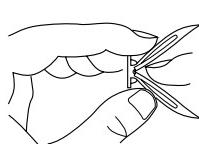

Figure 7 - Folding Anchor
2. Fold wall anchor (see Figure 7).